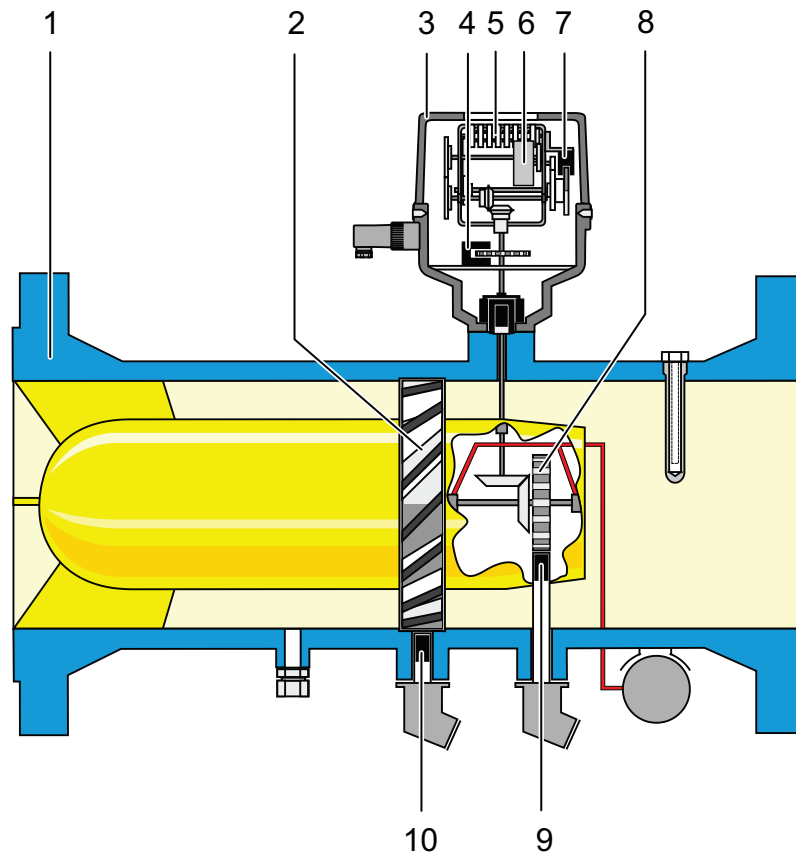

Fig. 31: Section drawing of a turbine gas meter (example)
To measure the rotational speed, various signal transmitters/pulse generators are available, which transmit low-frequency (LF) or high-frequency (HF) pulses to the Flow Computer. The following diagram gives an example overview of how they could be arranged in a turbine gas meter (cf. fig. 31).